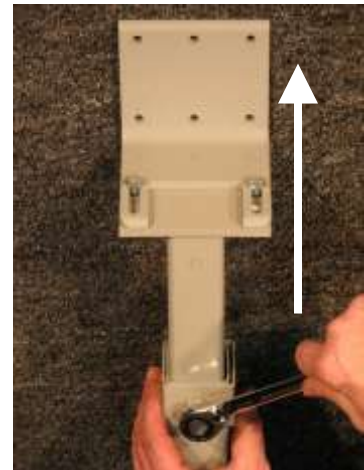

Figure 3
4. The overall length of the unit can be adjusted as shown in Figure 3. This may be necessary to mount above an obstacle such as an existing chalk board.